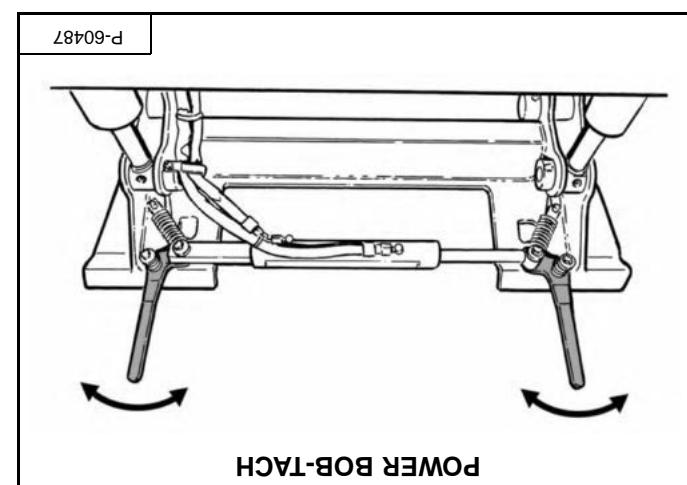
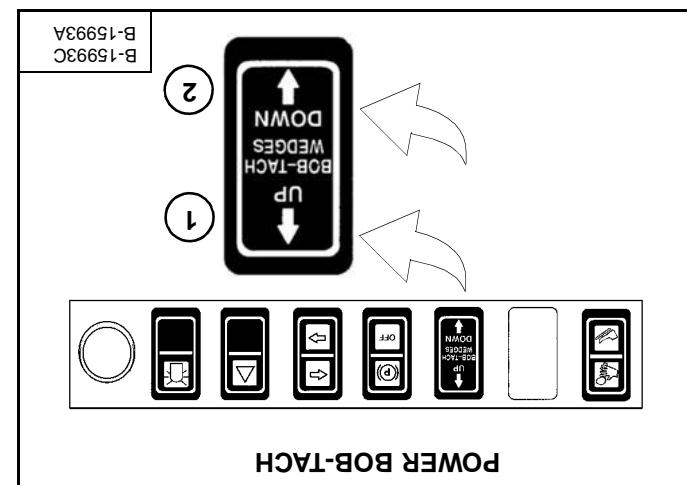

Figure OI-21
Figure OI-20
The levers and wedges must move freely [Figure OI-21].
[Figure OI-20] until the wedges are fully lowered. Push and hold the BOB-TACH WEDGES DOWN switch (item 2) until the wedges are fully raised. Push and hold the BOB-TACH WEDGES UP switch (item 1) until the wedges move freely [Figure OI-21].